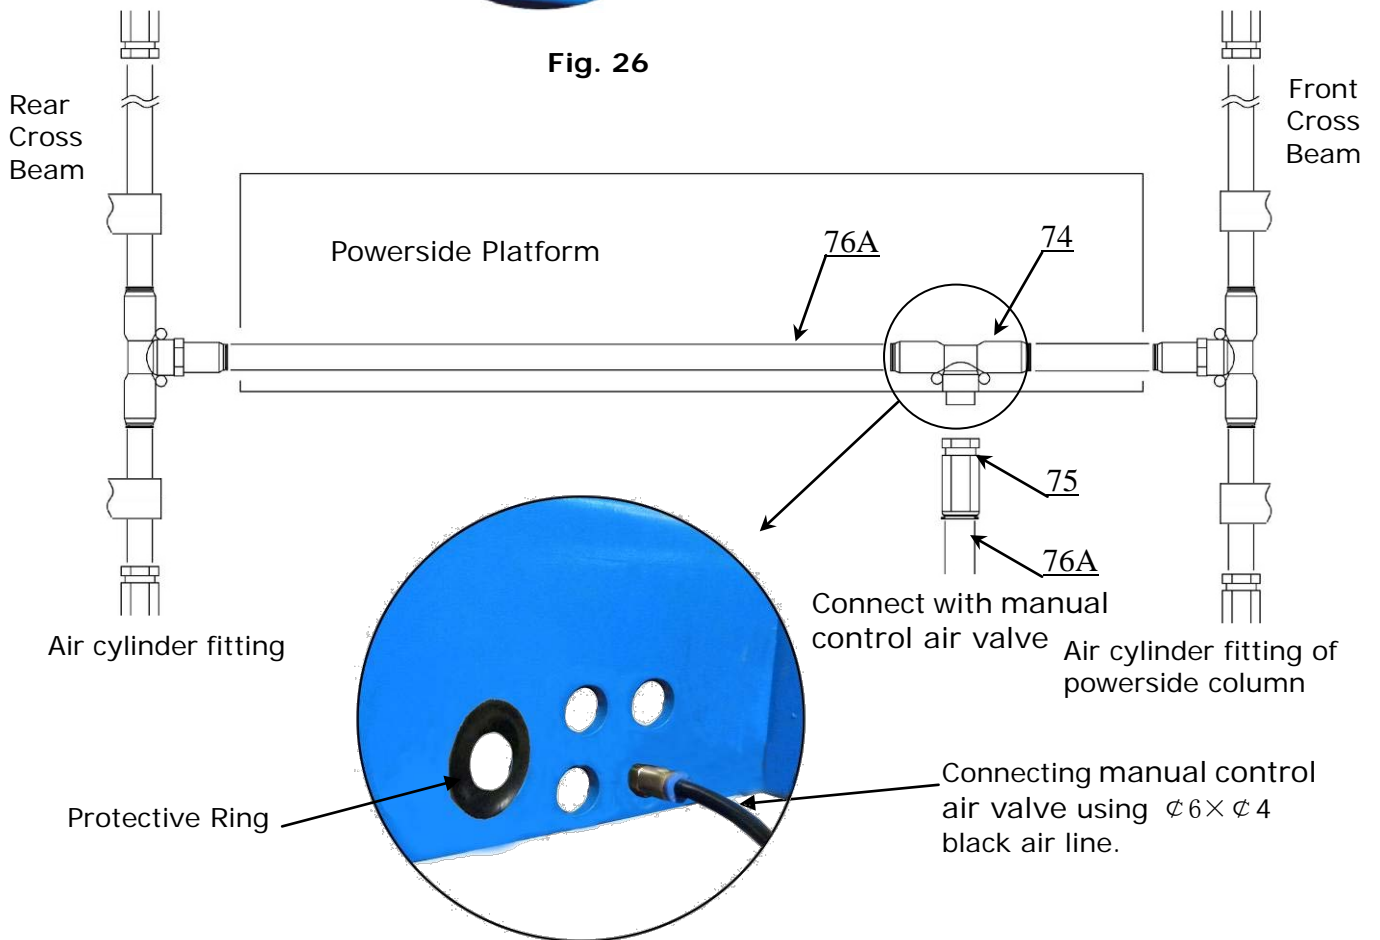

Fig. 27
(See Fig. 27).
3. Connecting manual control air valve by using $\phi 6 \times \phi 4$ black air line (See Fig. 27)